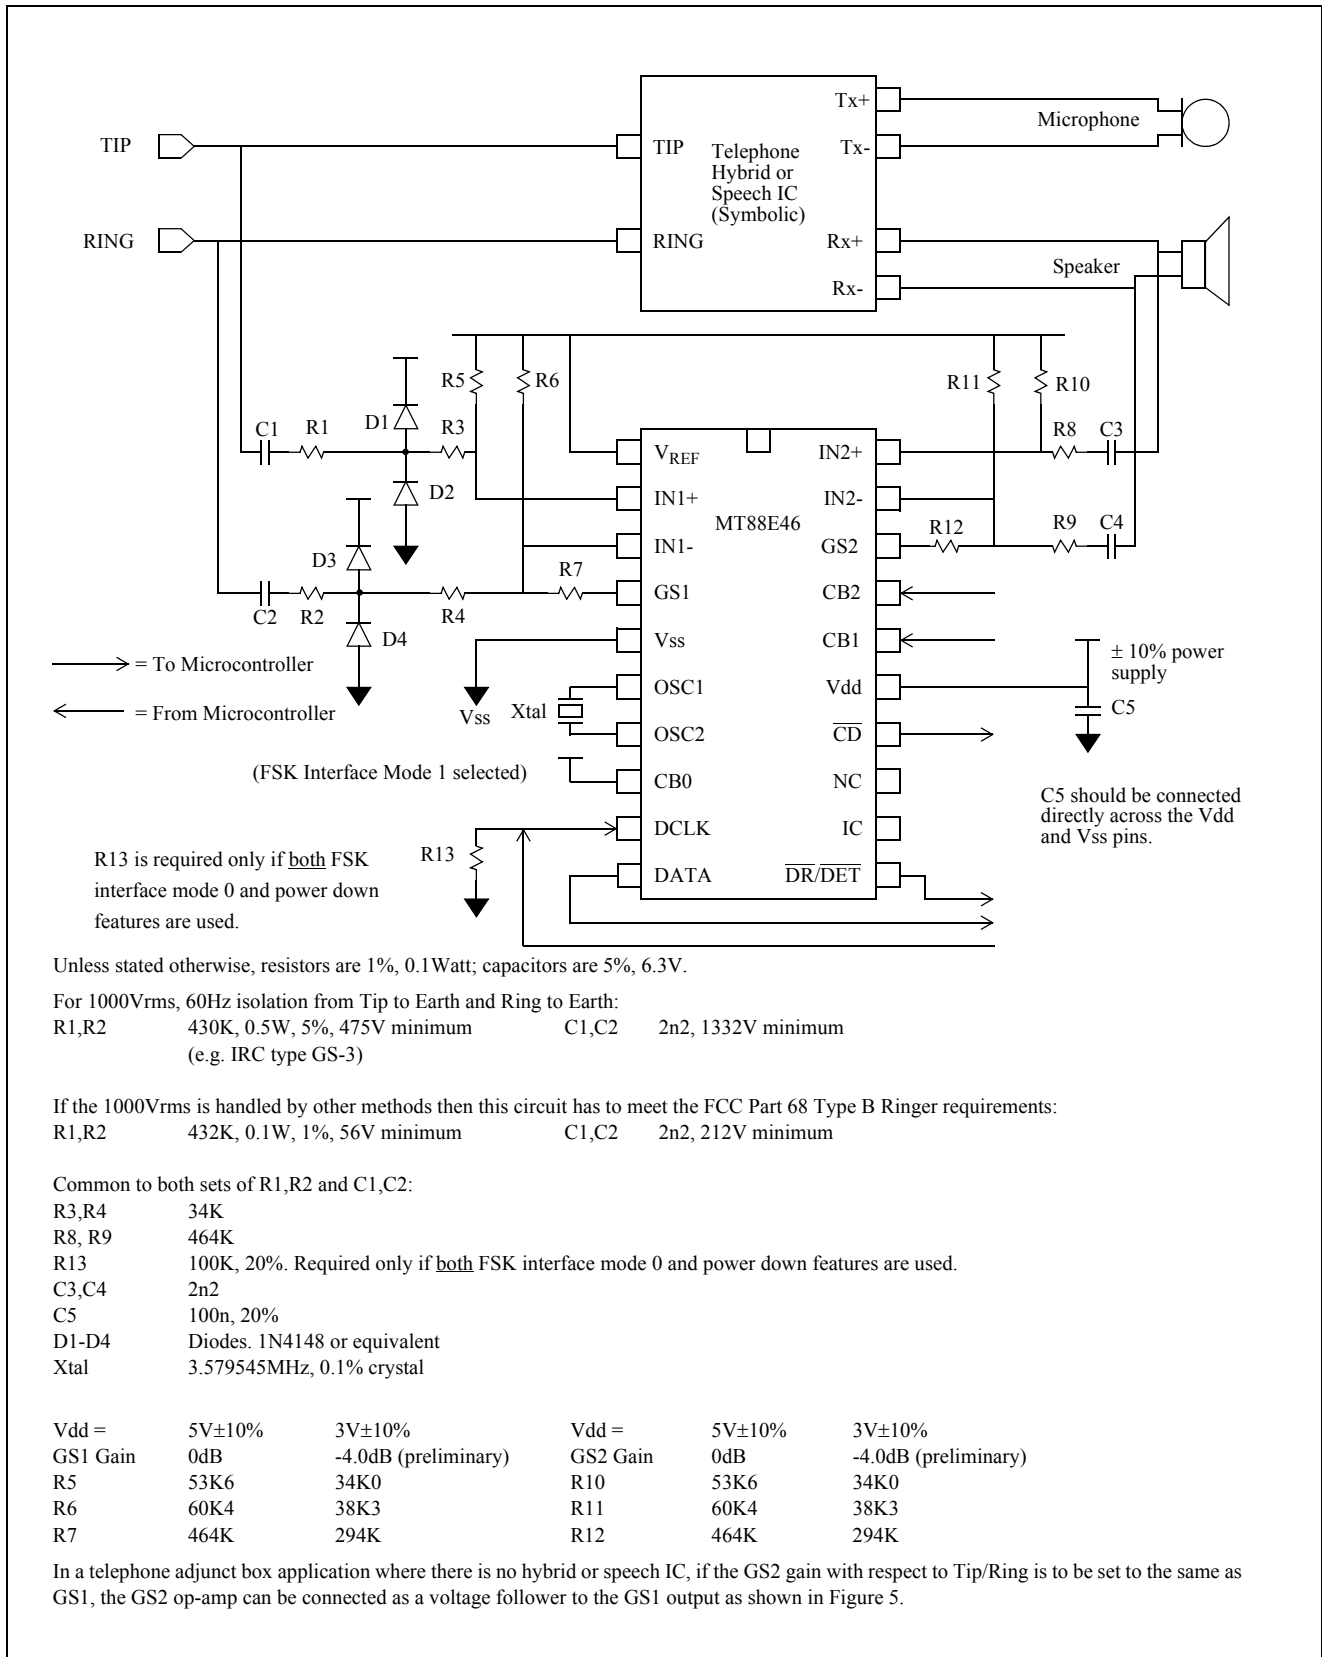

Figure 8 - Application Circuit: MEI Compatible Type 2 Telephone
The MT88E46 can be powered down to consume virtually no power supply current via a state of the CB0/1/2 pins. Momentary transition of CB0/1/2 into the power down code will not activate power down. In power down mode both input op-amps, V_{REF} and the oscillator are not operational; DCLK becomes an input pin because to select the power down state CB0 is 1 which selects FSK interface mode 1. If the application uses FSK interface mode 0 and the MT88E46 needs to be powered down, then during power down the input state of the DCLK input must be defined, for example, by a pull down resistor (R13 in Figure 8) so that the MT88E46 will draw minimal power supply current. When the MT88E46 is powered down DATA, $\overline{DR/DET}$, \overline{CD} are high.
- For the GS1 op-amp, start with the 0dB gain setting resistor values of $R5_{0dB}$, $R6_{0dB}$ and $R7_{0dB}$. In Figure 8 they are 53K6, 60K4 and 464K respectively. Keep R1, R2, R3, R4, C1, C2 as in Figure 8 to keep the input highpass filter corner frequency constant for all gain settings.